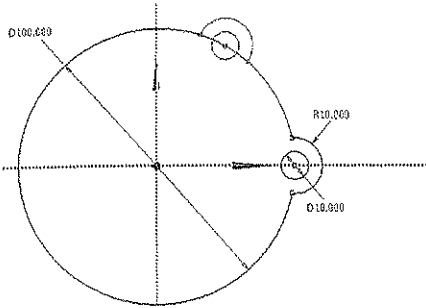

Figure 4-52 Sketch after replicating the first instance of the selected entity
17. Right-click in the **Graphics** window and choose the **Paste at Plane Origin** option from the shortcut menu displayed; a similar instance of the selected entity will be replicated at an angle of 60 degrees, refer to Figure 4-52.